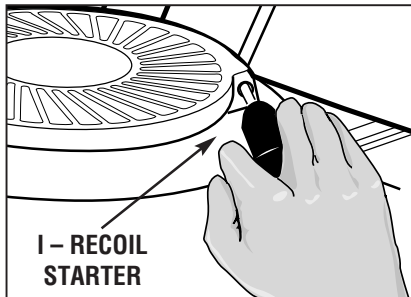

Figure 3-7
The recoil starter (I, Figure 3-7) is used to “pull-start” the engine. Detailed instructions for using the recoil starter are found in the Operation Section of this Manual and in the Engine Owner’s Manual. Do not pull the recoil starter until you have read the Operation Section.
- B. Grasp starter rope handle (Figure 3-7) and pull slowly until rope pulls slightly harder. Let rope rewind slowly. Then pull rope with a rapid, full arm stroke. Let rope return slowly. If engine fails to start after three pulls, repeat instructions starting with Step 2 (try setting throttle at fast setting).